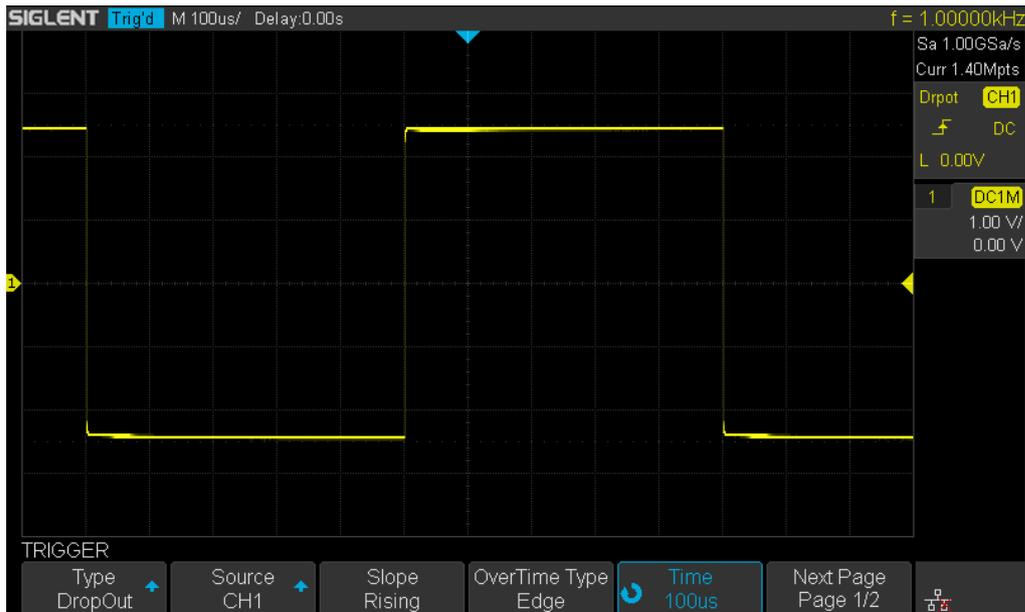

Figure 35 Edge DropOut Trigger
4. Press the **Signal** softkey to enter the **SIGNAL** menu as Figure 35 shows.